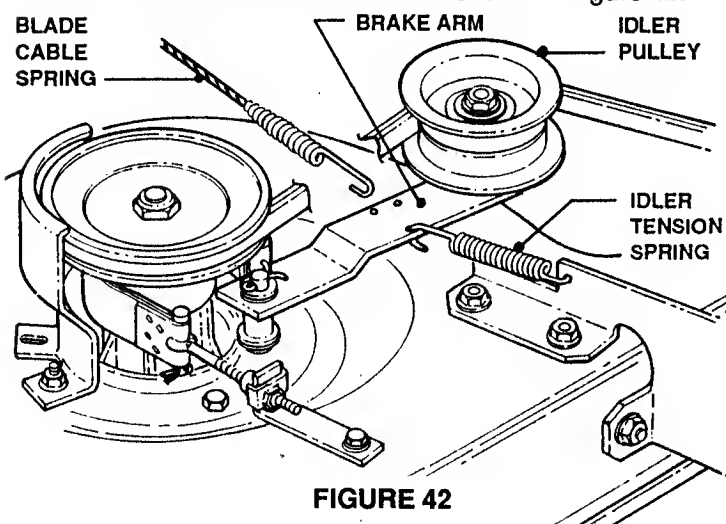

FIGURE 42
5. Roll mower deck towards the rear then disconnect the BLADE CABLE SPRING as shown in Figure 42.